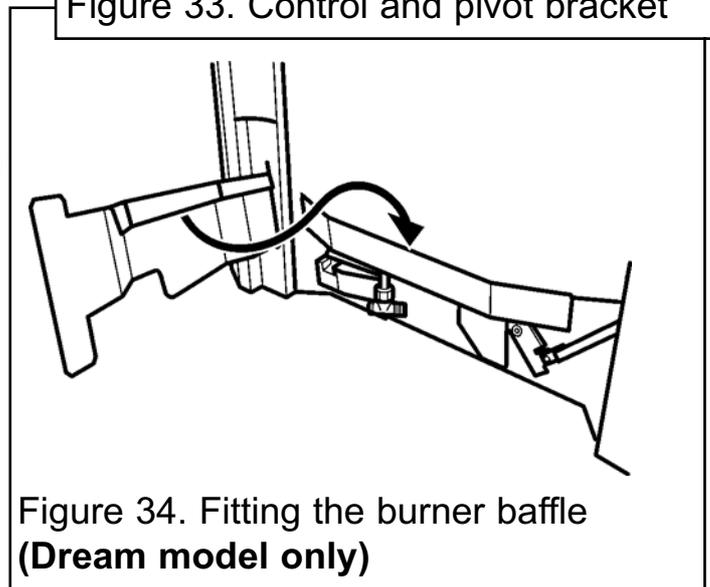

Figure 34. Fitting the burner baffle (Dream model only)
5. Fit the burner baffle to the front flanges of the burner. To do this, place the baffle against the front flanges of the burner and lower into position. The return edges on the rear of the baffle should slot over the front flanges of the burner (See figure 34).